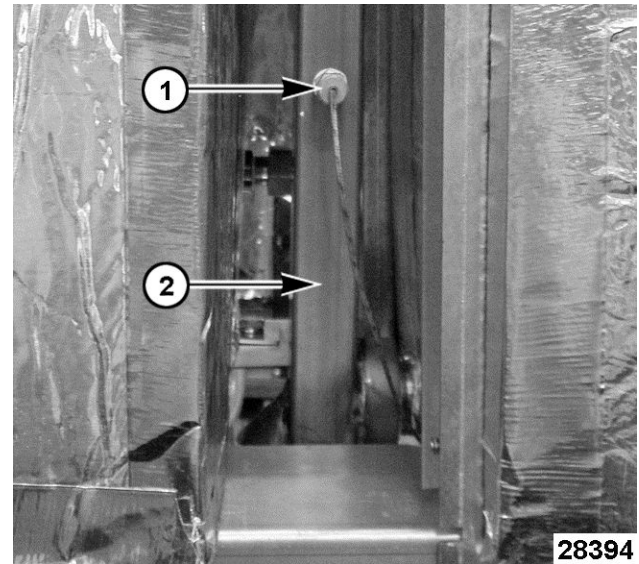

Fig. 48
3. Remove sensor probe [1] Fig. 48 from sensor tube [2] Fig. 48.